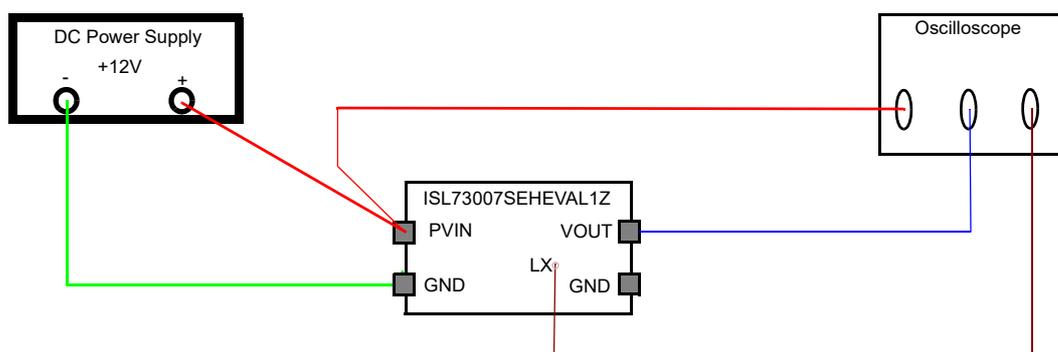

Figure 2. ISL73007SEH Basic Evaluation Test Setup Block Diagram
1. Configure the board as shown in Figure 2.